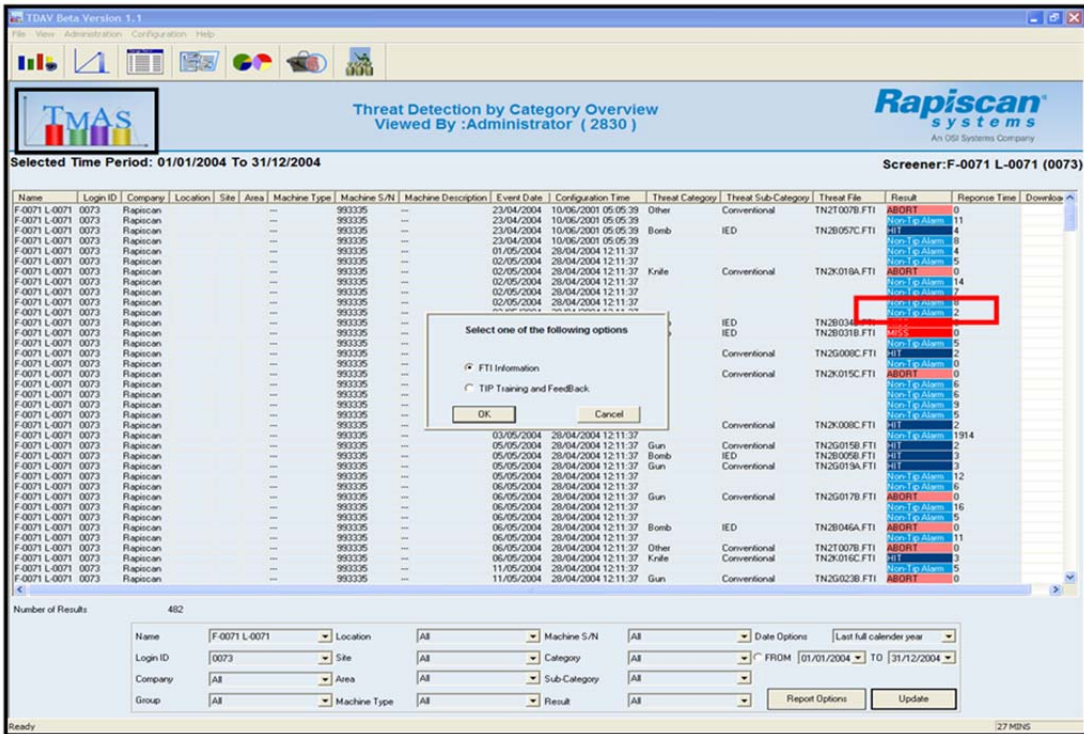

Figure 13 - Double-click a MISS and view either the TIP information or the image
- When a MISS result is double-clicked, the software will offer two options: To view the TIP information or review the missed TIP image via the TIP Training and Feedback module (Figure 13)